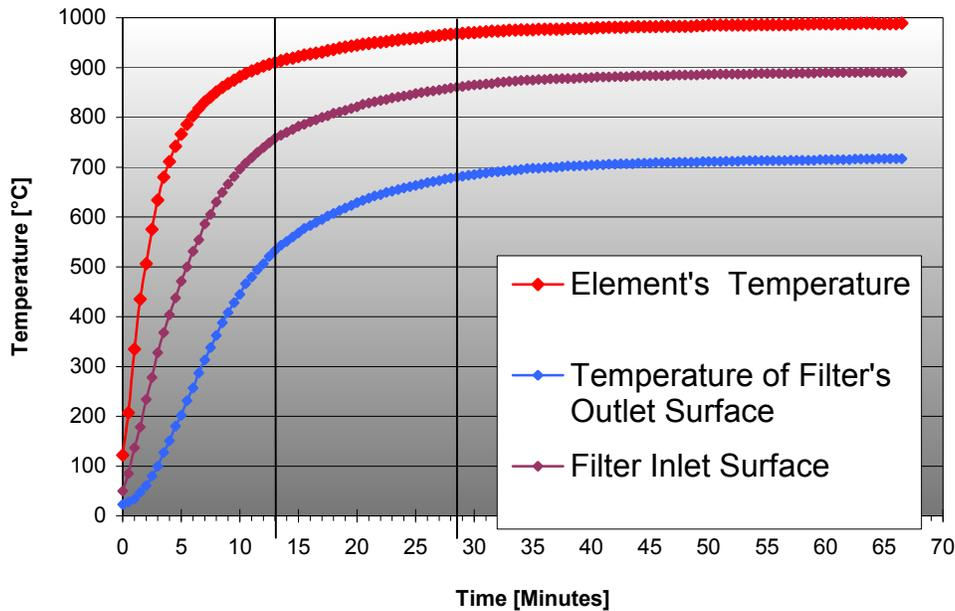

Figure 2: Filter Temperature During Preheating on the Crucible Heater
Step 2 is to preheat the crucible before testing. The graph on Figure 2 shows how fast the filter temperature increases. At time 0, the element and the crucible were at room temperature.